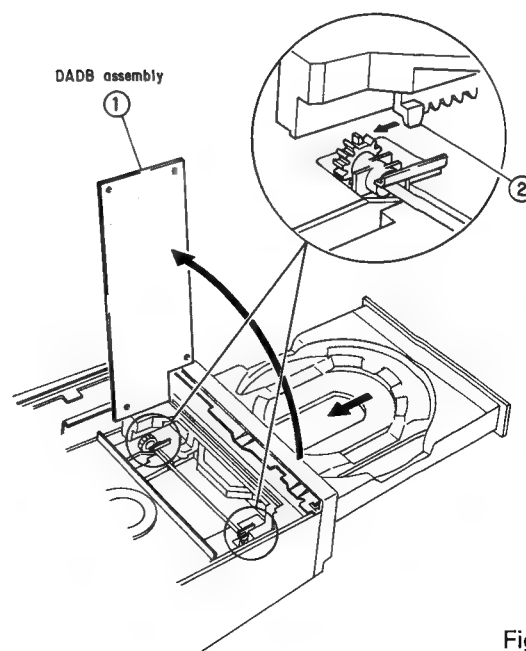

Fig. 9-7
1. Insert the disc tray while applying the half-tooth portion of the gear to the gear of the disc tray. (Fig. 9-7.)